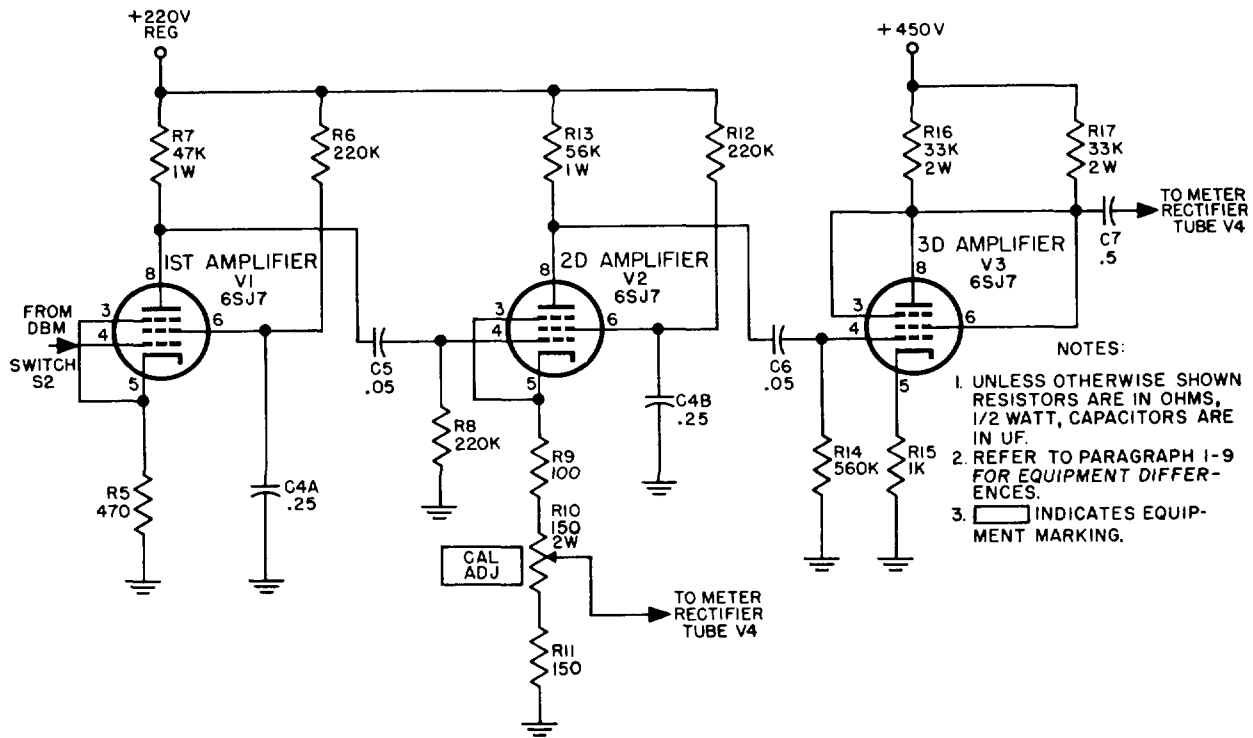

Figure 5-15. Decibel Meter ME-22 (*)/PCM, amplifier circuit, schematic diagram.
a. First Amplifier. The first amplifier (fig. 5-15) consists of tube V1 and its associated circuit elements. The attenuated signal is coupled directly from DBM switch S2 to the grid of tube V1. Grid bias is obtained through the voltage drop across cathode resistor R5. Plate and screen voltages are obtained from the +220-volt regulated power supply. Resistor R7 is the plate load resistor. Resistor R6 is the screen-dropping resistor, and capacitor C4A is the screen bypass capacitor. The amplified signal at the plate of first amplifier tube V1 is applied to second amplifier tube V2.
b. Second Amplifier. The second amplifier consists of tube V2 and its associated circuit elements (fig. 5-15). The output of first amplifier tube V1 is coupled through capacitor C5 to the grid of second amplifier tube V2. Resistor R8 is the grid leak resistor.
c. Third Amplifier. The third amplifier consists of tube V3 and its associated circuit elements (fig. 5-15). The output of second amplifier tube V2 is coupled to the grid of third amplifier tube V3 through capacitor C6. Resistor R14 is the grid leak resistor. Grid bias is obtained through the voltage drop across cathode resistor R15. Resistors R16 and R17, connected in parallel, form the plate load resistor. These resistors are rated at 2 watts each, and the parallel combination is used to provide sufficient wattage to dissipate the heat generated by the high current in this circuit. Plate and screen voltages are supplied directly from the +450-volt output of the power supply filter formed by coil L1 and capacitors C10 and C11. The amplified signal at the plate of tube V3 is applied to meter rectifier tube V4.